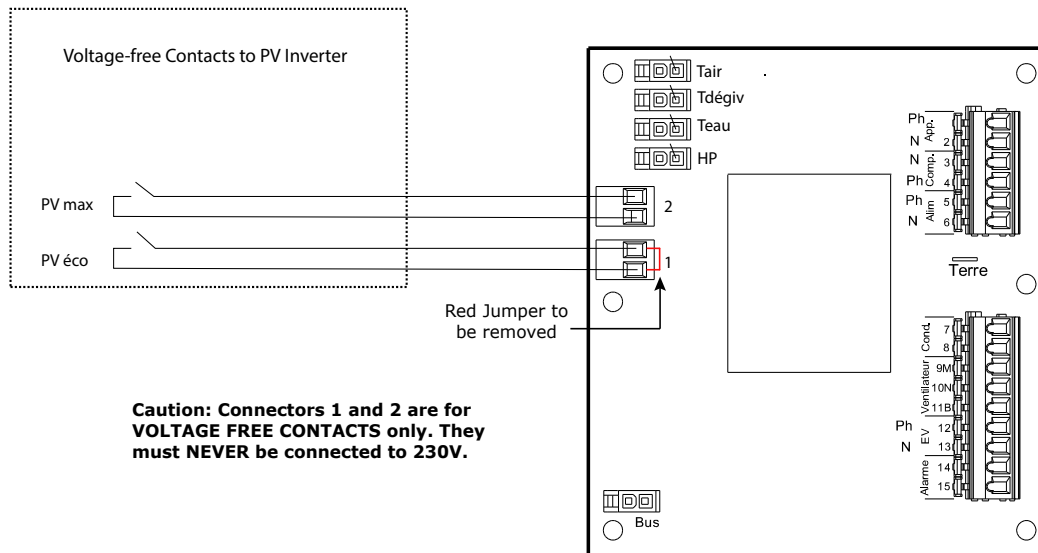

Figure 9: Diagram showing PV connections
- If the PV function regulator has two control contacts, connect them to Entrée 1 and 2 on the electronic board (see Figure 9).